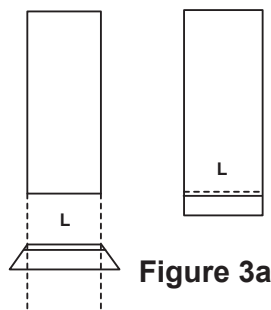

Figure 3a
2. Cut the miter from both ends of the 9" piece of moulding, trimming the moulding to fit the false tread **L**. Fit and install the moulding to the false treads **L** using glue. Be sure that the moulding remains square to the tread. (See Figure 3a.)